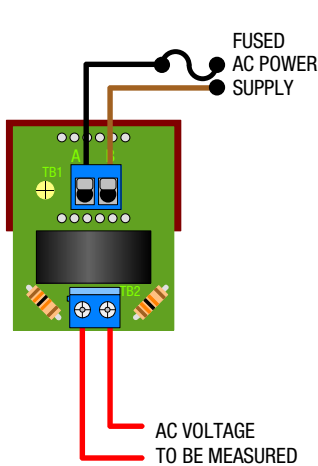
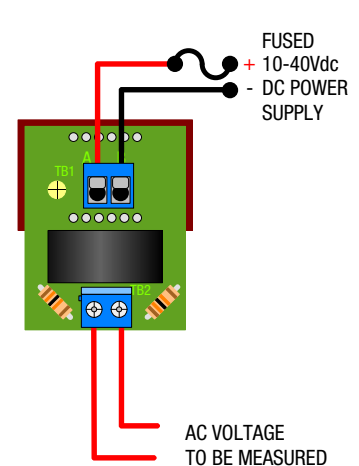

Figure 1A.
Figure 2.
**3. Power Supply Polarity, Fusing, and Grounding:** As shown in Figures 1A, 1B, and 2, the two power supply inputs, TB1-A and TB1-B, on ac-powered DMS-20RM voltmeters ("AC1" suffix) are not polarity sensitive, that is, they have no "AC LO" or "AC HI" designations. Also, ac-powered models do not include or require a connection to earth/chassis ground. DC-powered models ("DC2" suffix) are reverse-polarity protected, and must be connected as shown in Figure 2 for proper operation.